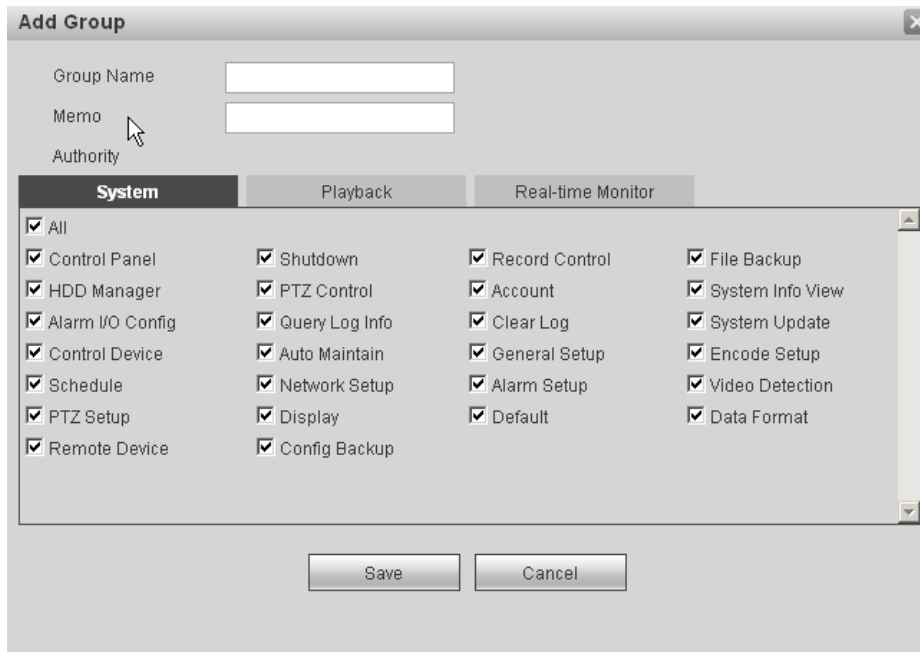

Figure 5-83
**Add group:** It is to add group and set its corresponding rights. See Figure 5-83. Please input the group name and then check the box to select the corresponding rights. It includes: shutdown/reboot device, live view, record control, PTZ control and etc.